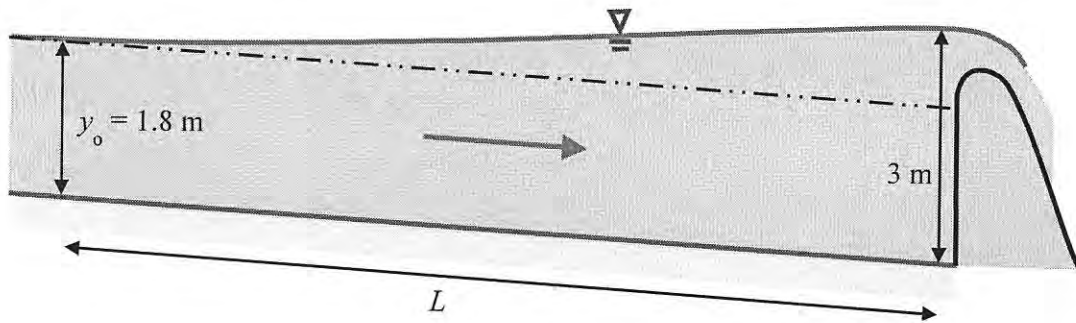

FIGURE Q2(c)
- (a) State of open channel flow is basically governed by viscosity and gravity effects relative to inertial forces of the flow. Briefly explain **TWO (2)** differences of flow states between these two effects. (6 marks)
- (b) A control section 'controls' the upstream or downstream flow. With the aid of diagram, equation and specific energy curve, explain **TWO (2)** differences between Case 1, Case 2 and Case 3 for flow through constricted channel. (4 marks)
- (c) A clean earth ground rectangular channel with 6 m width laid on a slope of 0.006. Water flows at 30 m³/s in the channel and enters a reservoir as shown in **Figure Q2(c)**. Depth of water increases to 3 m before the entry which is two times of the normal depth. Calculate: